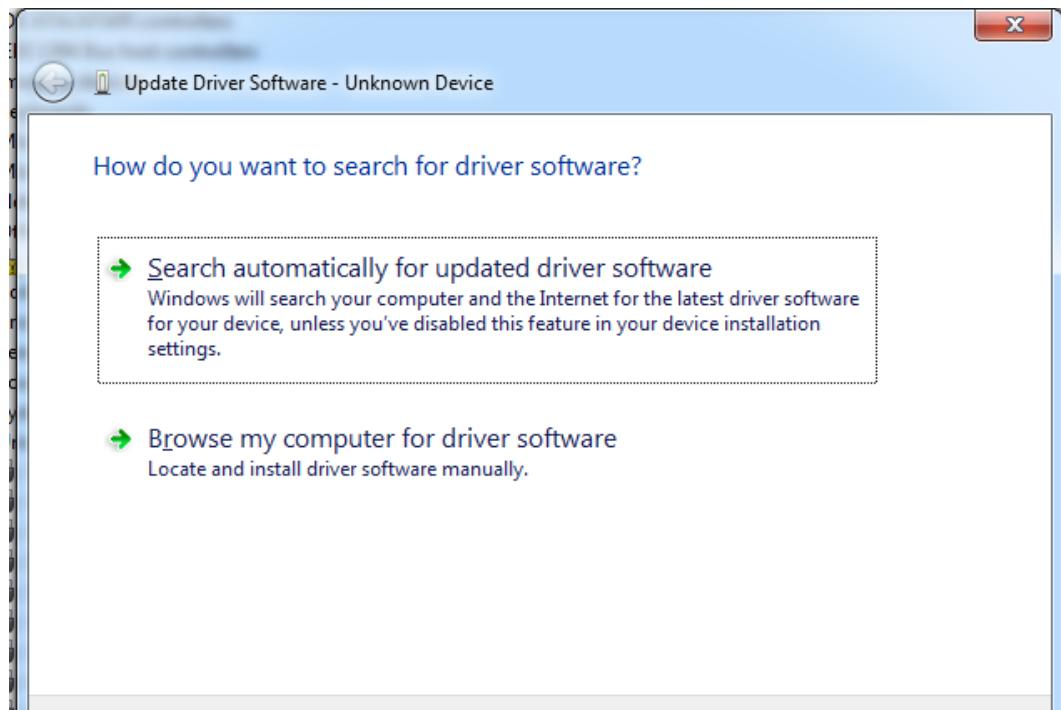

Figure 3.2: Windows update driver option
8. Right click on the “Unknown device” and select the “Update Driver Software” option as shown in Fig. 3.2.